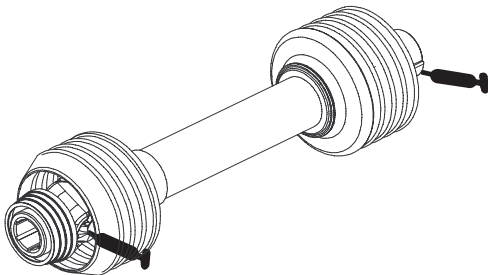

Figure 14
Under normal conditions, grease the (2) drive shaft fittings after every 100 hours of use (Fig. 14). Use a No. 2 Lithium-based grease.